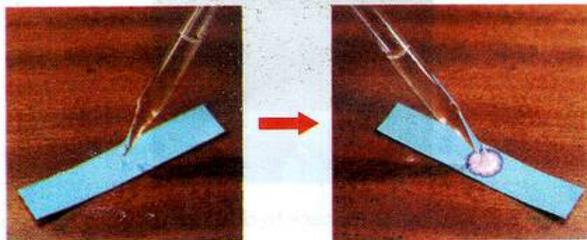

Figure 9.4: The test for the presence of water using cobalt chloride paper. The paper turns from blue to pink.
Not all neutral colourless liquids are water. The presence of water can be detected using anhydrous copper(II) sulfate or cobalt(II) chloride. Water will turn anhydrous copper(II) sulfate from white to blue and anhydrous cobalt(II) chloride from blue to pink. Cobalt chloride paper contains blue anhydrous cobalt chloride. It turns pink if water is present (Figure 9.4).